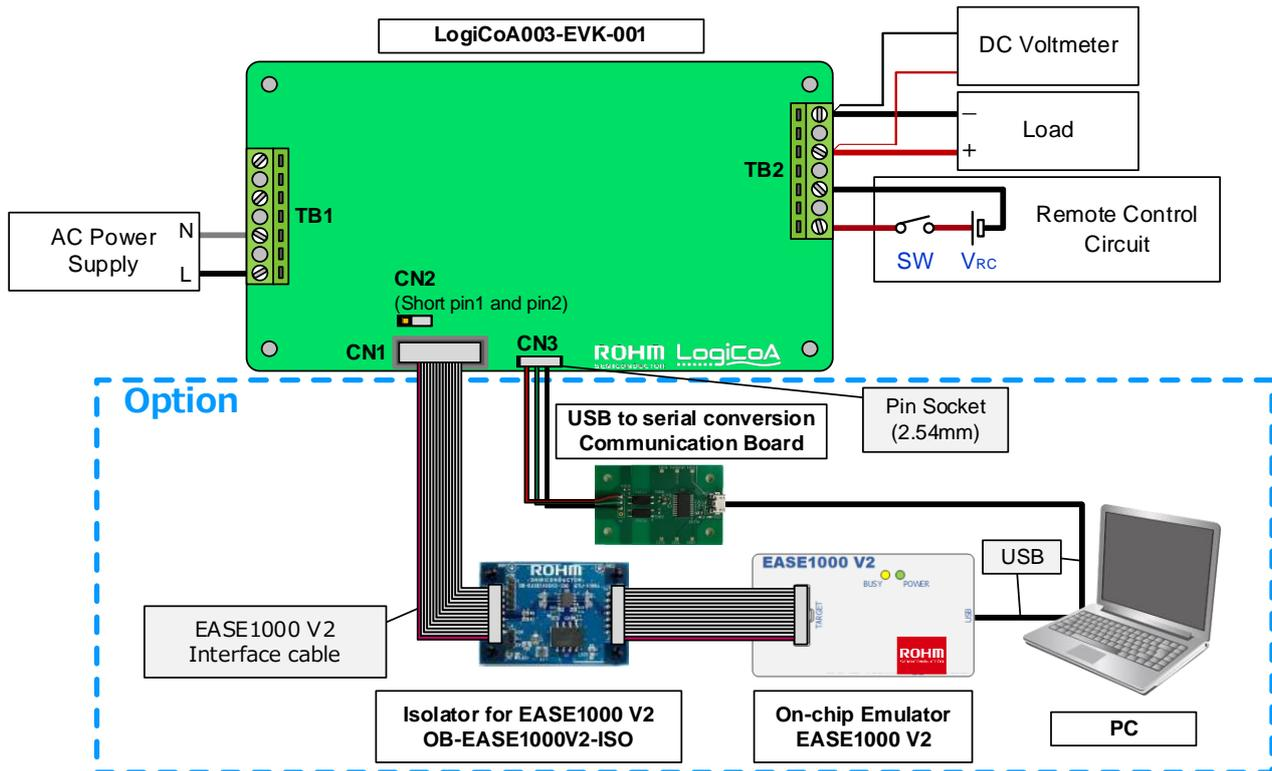

Figure 2. LogiCoA003-EVK-001 Connection Diagram
- (1) Preset the AC power supply to 85VAC to 264VAC and turn off the power output.
- (2) Set the load to 4A or less and disable the load.
- (3) Preset the external power supply for the remote control circuit to 4.5V to 12.5V and turn off both the power output and the switch. *(Note 3)*
- (4) Connect the EVK, AC power supply, load, DC voltmeter, and remote control circuit as shown in Figure 2.
- (5) For communication control, connect the EVK, communication board and PC. *(Note 1)*
- (6) For debugging, connect the EVK, EASE1000 V2, EASE1000 V2 isolator and PC. *(Note 2)*
- (7) Turn on the output of the AC power supply.
- (8) Turn on the external power supply output and switch for the remote control circuit. *(Note 3)*
- (9) Make sure that the DC voltmeter display shows the output voltage of 24V. *(Note 3)*
- (10) Activates the load.